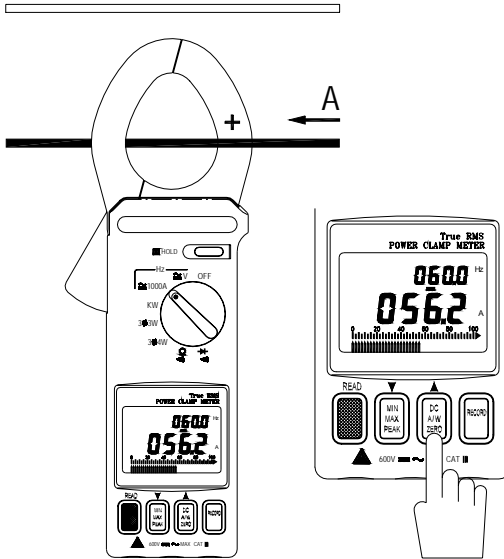

Figure 15
1. Set the rotary switch to the '1000A' position (refer to figure 15).